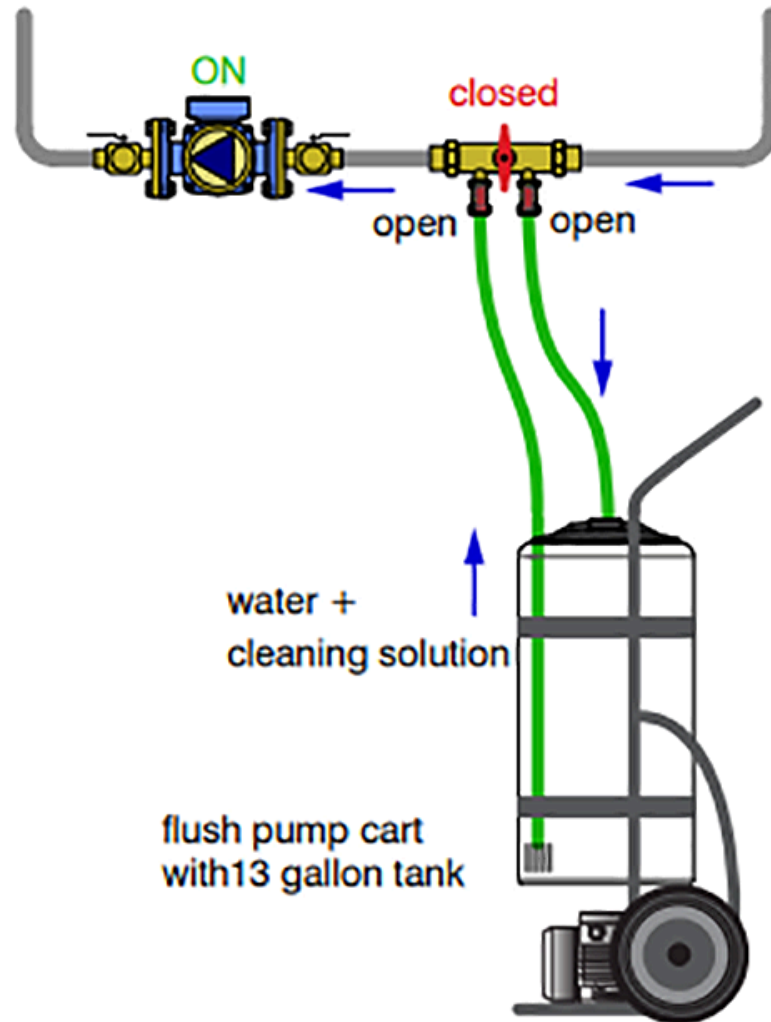

Figure 31 Flush pump cart. (Caleffi, idronicsTM, 2016). Caleffi S.p.A. All rights reserved. Used with permission.
To perform either initial flushing or chemical cleaning procedures, the system must be equipped with the appropriate valves (Figure 31) to add fluid and remove both air and dirty fluid.
- **Figure 31** Flush pump cart [Figure 4-9] is by Caleffi Hydronic Solutions (2016, p. 22) in *idronics*TM and is used with permission.